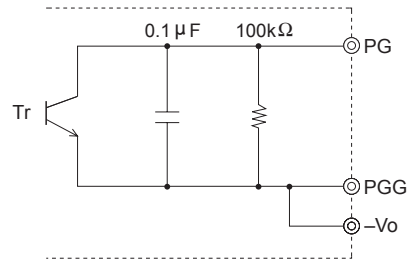

Fig.6.1 Internal circuit of PG
- Table 6.2, see Fig 6.1 the internal structure circuit explaining the operation of the PG alarm.